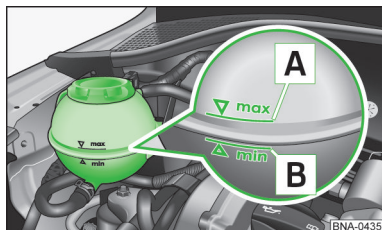

Fig. 80
Check the coolant level - the coolant level must lie between the marks  and  » fig. 80. If the coolant level is below the mark , top up with coolant.
- Do not fill the coolant above the mark  » fig. 80. The coolant could, when heated, be expelled from the cooling system - There is a risk of damage to the engine parts.